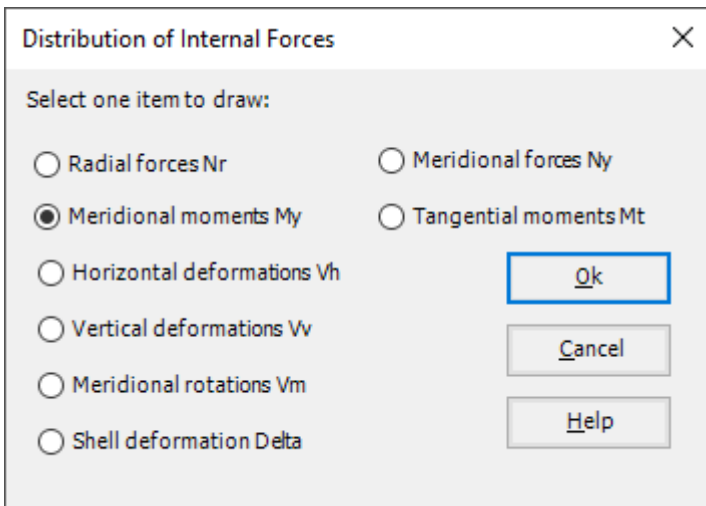

Figure 10.28 "Distribution of Internal Forces" option box
- From "Rotational shell results" command in the "Results" menu, choose "In Plan" command. The following option box in Figure 10.28 appears